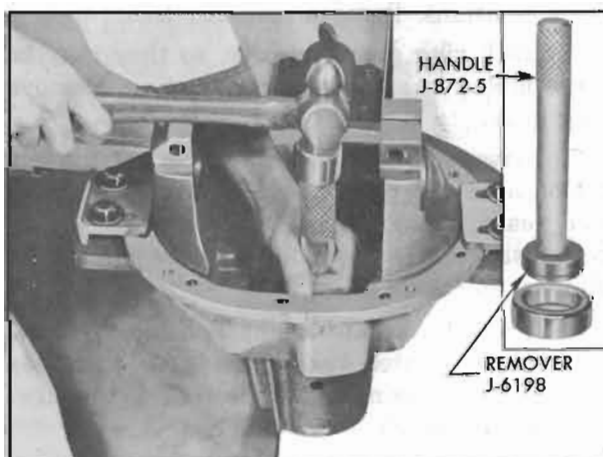

Figure 6-21—Removing Front Pinion Bearing Outer Race
6. Pry pinion oil seal from carrier, being careful not to damage front pinion bearing. If front pinion bearing is to be replaced, drive outer race from carrier using Remover J-6198 with Handle J-872-5. See figure 6-21.